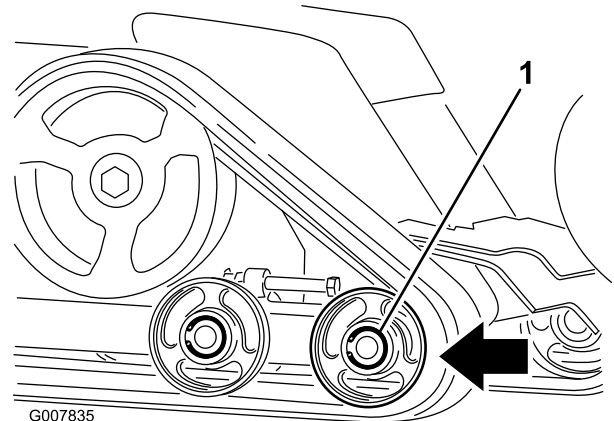

Figure 50
6. Push the front road wheel rearward as far as it will go (Figure 50).
8. When the track is off of the road wheel, remove it from the machine (Figure 50).
9. Beginning at the drive sprocket, coil the new track around the sprocket, ensuring that the lugs on the track fit between the spacers on the sprocket (Figure 50).
10. Push the track under and between the rear and center road wheels (Figure 50).